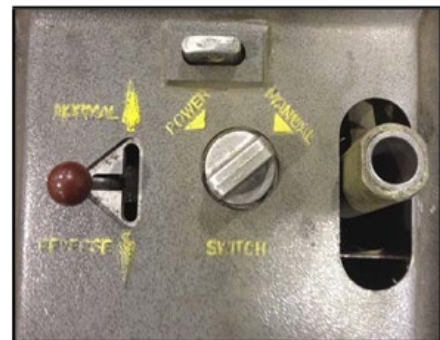

Figure 8 – Power pack Control switch
17.1 Turn the control switch on the Power Pack to Manual. (See figure 8).